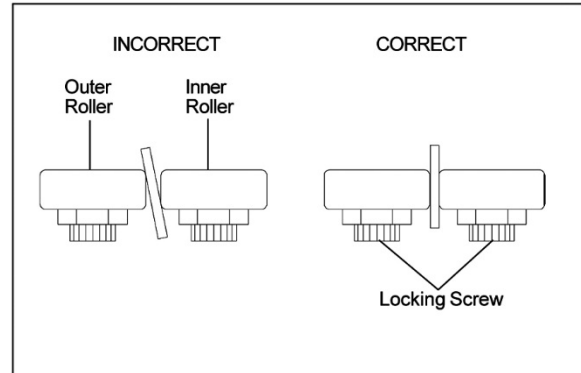

Figure 9
4. Hold the bushing with a 3/4-inch wrench and loosen the center locking screw with an Allen wrench (see Figure 9).